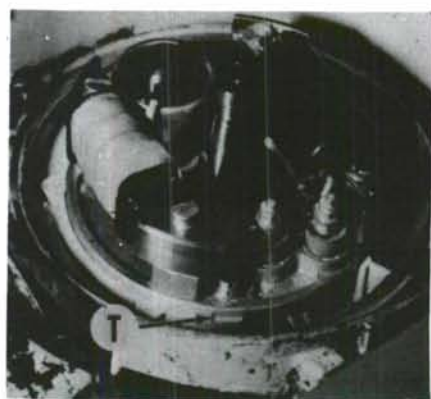

Fig. ST16—View of stator plate and crankcase timing marks (T) on early Bosch capacitor discharge models.
To properly time early model Bosch ignition, trigger coil (IC—Fig. ST14) must be in correct relationship with flywheel magnet. Ignition timing should be 1.9 mm (0.075 in.) BTDC for Models 041AVE and 041G. To check ignition timing, install a timing gage in spark plug hole and rotate crankshaft until piston is at ignition position as specified above. Note if flywheel mark (F—Fig. ST15) is aligned with mark (C) on crankcase. Remove flywheel and note if mark on stator plate is aligned with crankcase mark (Fig. ST16). If either of these marks is not aligned, ignition must be adjusted.